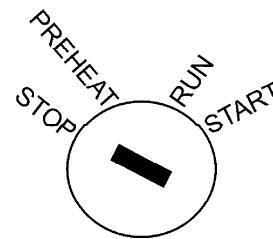

Figure 30. Ignition Switch (OFF)
3. Turn the key to the 'STOP' position to shut down the engine (Figure 30).